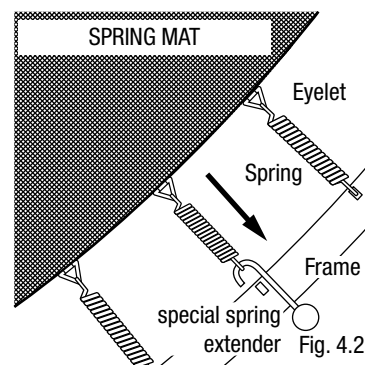

Fig. 4.2
- Spread out the spring mat (1) within the frame with the printed side facing upwards.
- Choose a spot on the frame piping (call this spot ZERO). Next fasten a spring (7) in the same direction and at the same angle on the frame, as illustrated in Fig. 4.2. Hook the spring onto the frame and twist the spring out towards the spring mat as shown in the illustration below. Use the special spring extender to connect the spring to the mat and catch the opposite hook in